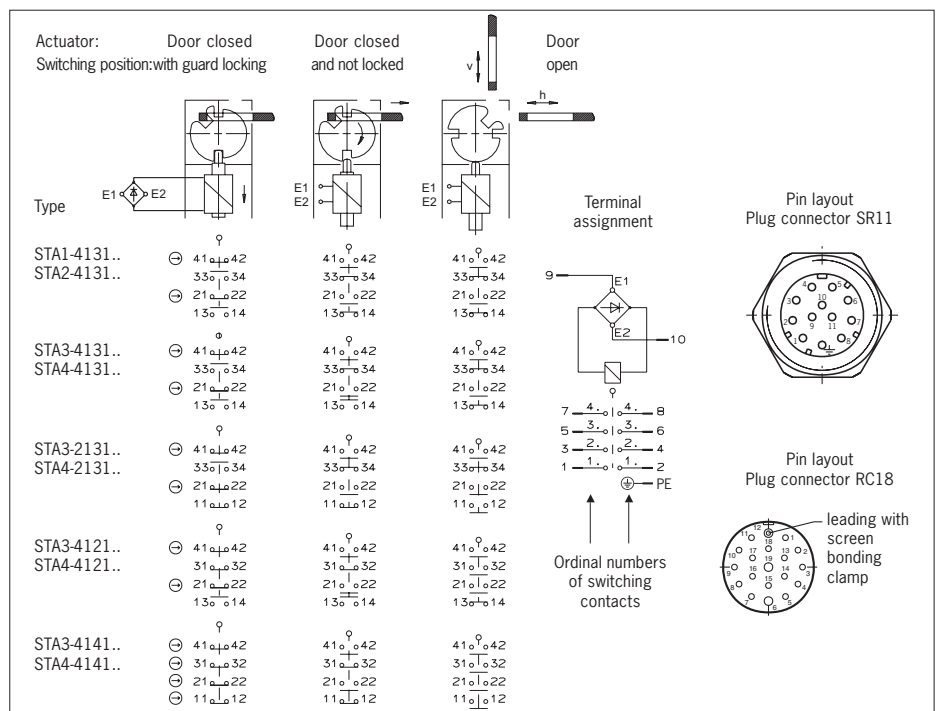

Figure 2: Switching elements and switching functions
- ▶ For terminal assignment see Figure 2.